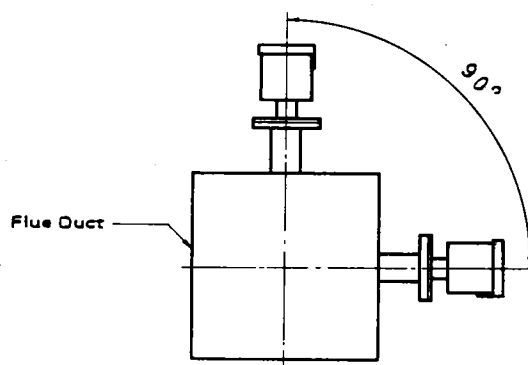

Figure 5.1 Installing the Detector
(1) Installing the detector and probe adaptor.
- a. Install the detector so that the probe faces perpendicular to the direction of the measurement gas flow---see Figure 5.1.